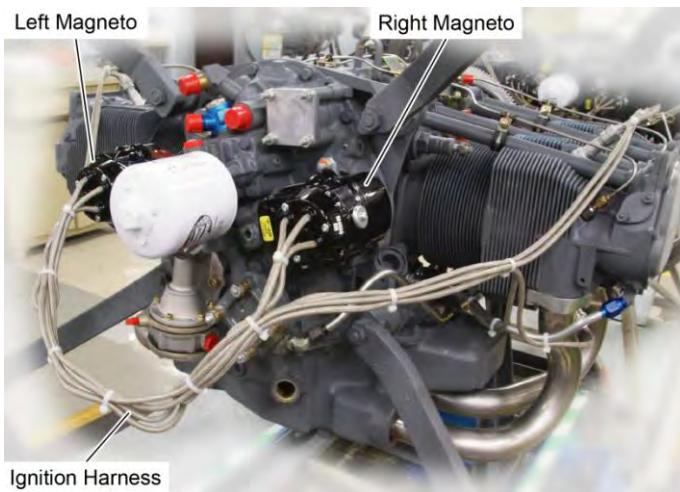

Figure 1
- A. Remove the ignition harness (Figure 1) from the engine harness.
- (1) Disconnect the clamps that attach the ignition harness to the engine.
- (2) Remove the screws which attach the harness cap to the magneto.
- (3) Disconnect the ignition leads from the spark plugs.
- (4) Remove the ignition harness.
- A. Attach the left ignition harness to the left magneto (Figure 1).